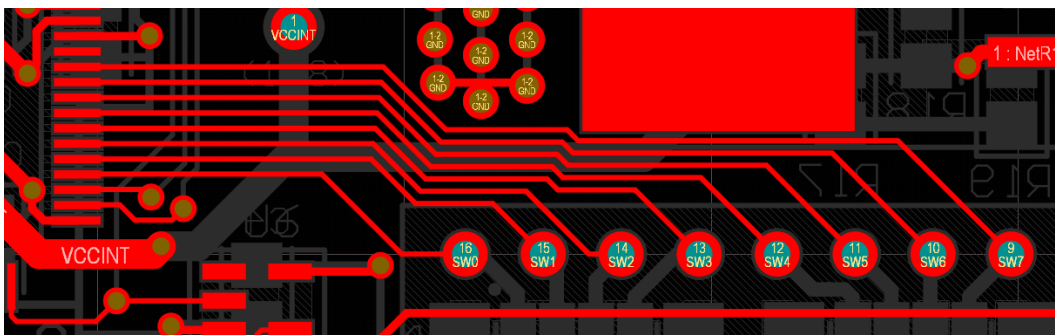

Figure 21. Results of applying Gloss command
44. The Glossing tool will straighten up and remove unnecessary track vertices in a routed path, Figure 21.